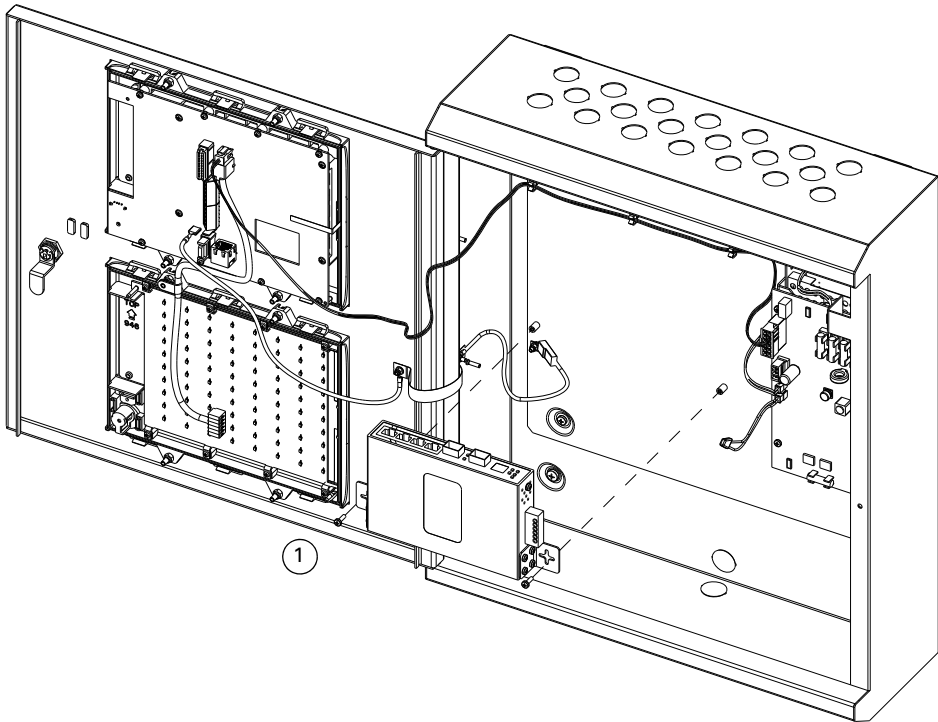

Fig. 4: Installing the Ethernet switch on a FC8AS AC repeater
- 2 Mount the fixing elements (refer to item 2 in Fig. 4) with screws (supplied) on the Ethernet switch housing.
- 3 Connect the DC power supply to the Ethernet switch connector (refer to item 4 in Fig. 4), observing the correct polarity. If you require a redundant power supply, connect a minimum 16/0.2 wire (not supplied).